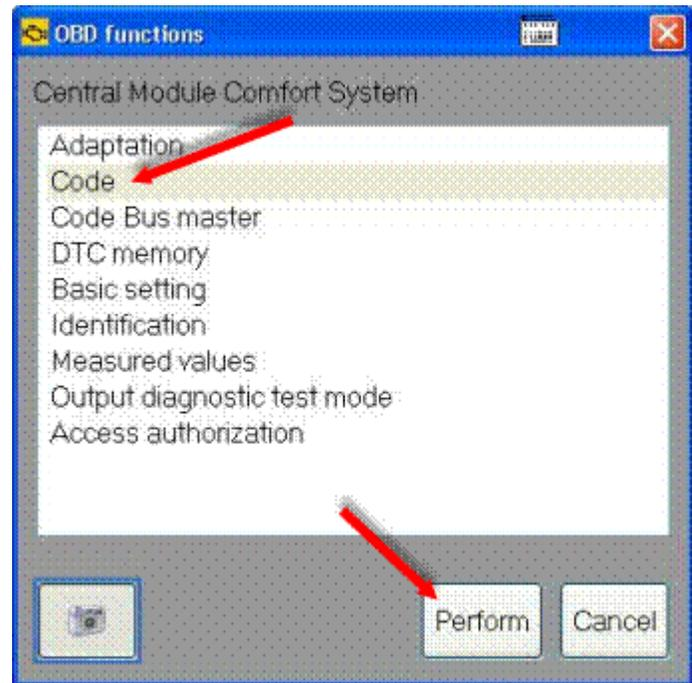

Figure 2. The OBD functions pop-up window.
1. In ODIS, in the **Control Module list**, right-click on address 46 and select **Control Module OBD** to open the **OBD functions** pop-up window. Select **Code >> Perform** (Figure 2).